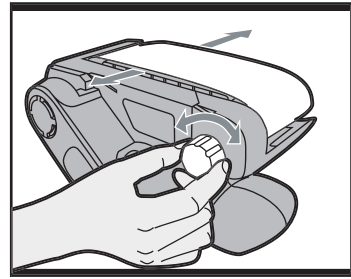

Fig 5
Turn the machine upside down, hold it firmly with one hand, start the motor and release the switch immediately after observing tracking of sanding belt. If abrasive belt runs outward, turn tracking adjustment knob (6) counter-clockwise and clockwise if belt runs inward (See Fig 5). Adjust the belt until the outer edge of the belt is even with the outer edge of the base-plate. Belt life will be greatly increased by keeping the tracking adjustment set properly.